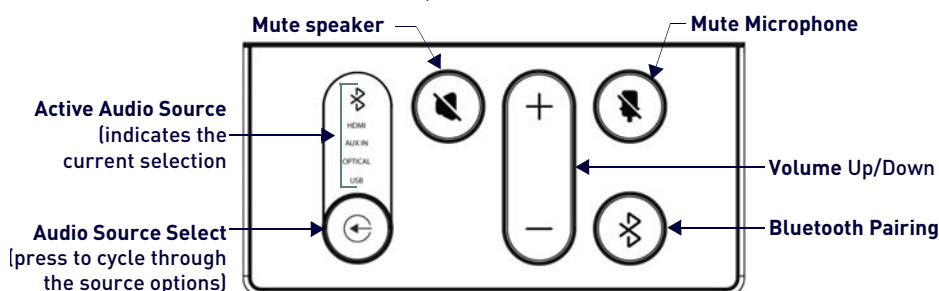

FIG. 15 Acendo Vibe LEFT SIDE PANEL Keypad
All controls and LEDs are on the left side panel of the Acendo Vibe (FIG. 15):
2. Use *Source Select* button on the the Acendo Vibe (FIG. 15) to select **USB** (if necessary).
2. Press and hold both the **Source Select** and **Bluetooth Pairing** buttons on the *Acendo Vibe* (see FIG. 15). After 3-5 seconds the LEDs on the remote control should stop flashing to indicate the remote control has paired.
1. Press the **Bluetooth Pairing** button on the Acendo Vibe or the remote control to initiate pairing (see FIG. 15). The Bluetooth button will flash on both the Acendo Vibe and the remote control.